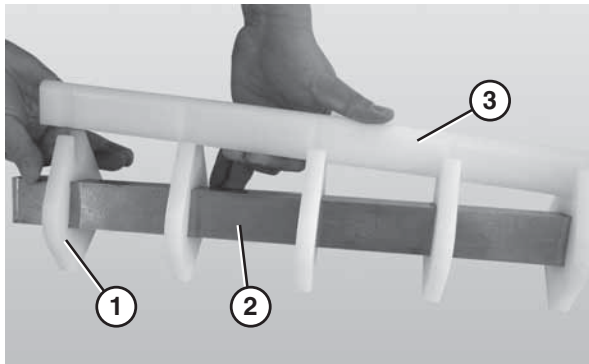

Figure 76
3. Remove the nose bar wear strip (**Figure 76, item 3**).
4. Slide the nose bar pucks (**Figure 76, item 1**) off the nose bar shaft (**Figure 76, item 2**).